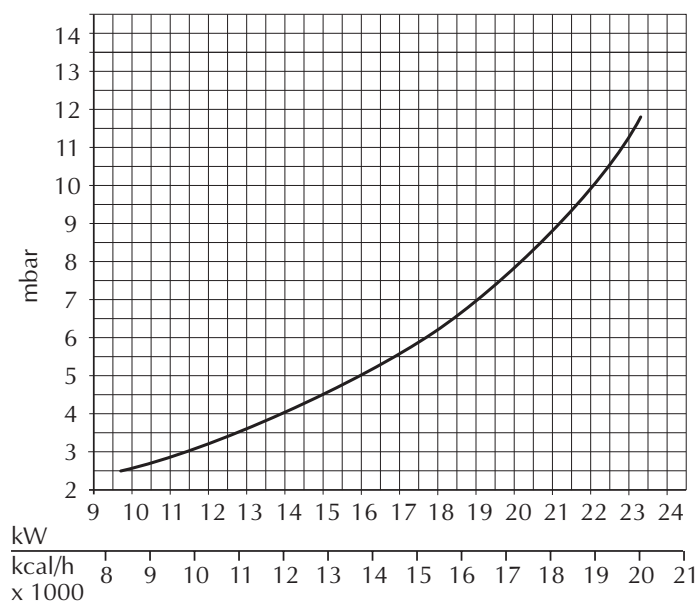

Fig. 4
**N.B. - The gas pressures at the burner and gas flows during the central heating phase given in the table refer to nominal boiler output. To reduce this output (where necessary), gas pressure must be reduced until the required output level is reached (see figures 4 and 5).**
To adjust boiler heat input (thus also regulating heat output to the central heating water) simply adjust the main burner via the electronic control board (fig. 4 and 5).